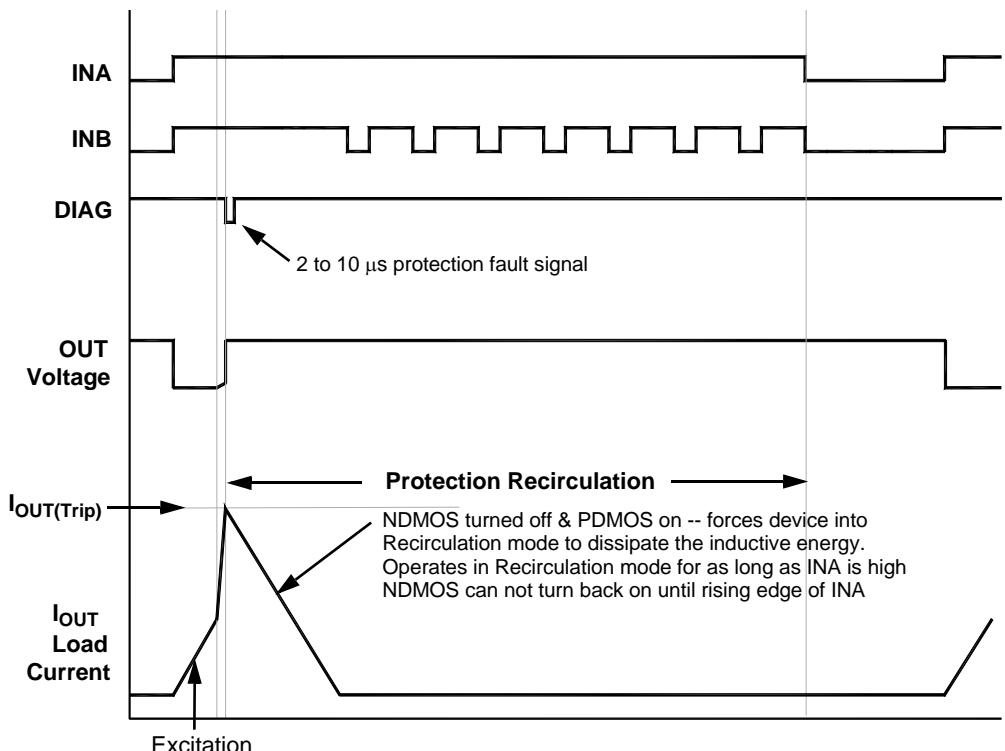

Figure 2. Current Trip
Refer to figures 2 through 6 for self-protection waveforms. All self-protection modes except over-voltage and under-voltage are reset when INA goes to logic 0. When a self-protection condition is detected the FDMS2380 will issue a protection fault on the diagnostic pin. This fault condition is signaled by a 2  $\mu$ s to 10  $\mu$ s pulse  $t_{DIAG(prot)}$  on the diagnostic pin DIAG. If the INA pin is activated while the condition setting the protection fault is still active additional protection fault diagnostic pulses will be issued.
**Current Trip** (see figure 2) Anytime during Excitation mode, if the current in the NDMOS rises above the  $I_{OUT(trip)}$  level, the FDMS2380 will turn off the NDMOS and enter into the Recirculation mode and issue a 2  $\mu$ s to 10  $\mu$ s protection fault pulse on the diagnostic pin DIAG. The device will remain in this Recirculation mode as long as the INA pin remains high and is terminated with the falling edge of INA.